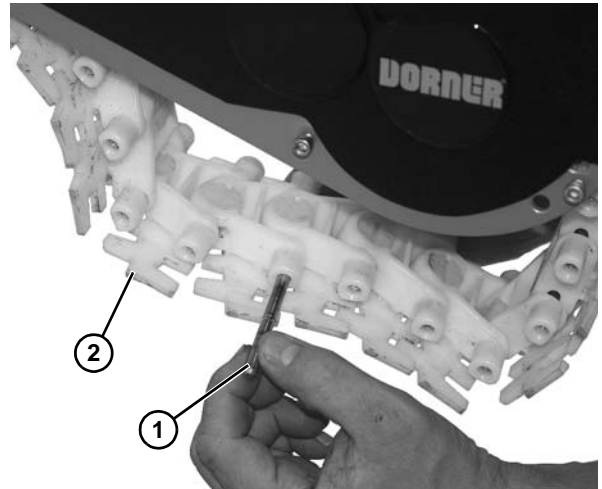

Figure 32
1. Use a punch and hammer or belt removal tool #203480 to push the belt rod (**Figure 32, item 1**) out by striking the rod end.
2. Slide the old belt (**Figure 32, item 2**) off the conveyor frame.